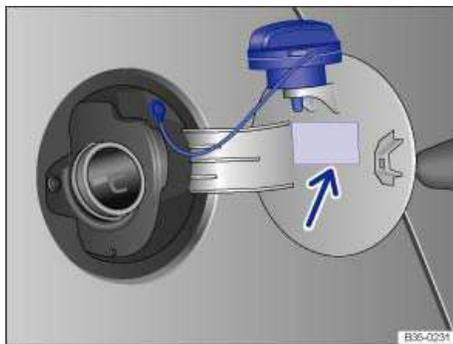

Fig. 162 Fuel cap placed on the open fuel filler flap.
- Unscrew the fuel cap counterclockwise and remove. Use the slot or the upper edge of the fuel filler flap to hold the cap while refueling ⇒ fig. 162.
The correct fuel grade for your vehicle ⇒ *Fuel* is listed on a sticker on the inside of the fuel filler flap ⇒ fig. 162 (arrow).
The correct fuel grade for your engine is shown on a sticker located on the inside of the fuel filler flap ⇒ fig. 162.